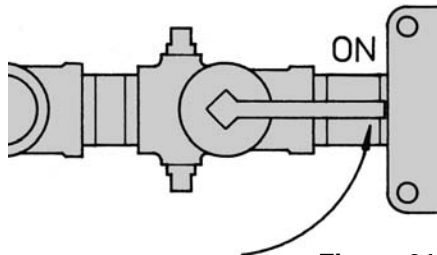

Figure 21
- a) Open the main gas cock knob counter-clockwise 1/4 turn to "ON" (Figure 21). Turn on all electric power to the boiler. Set thermostat to desired position. Turn operating switch on boiler to "ON" position. The boiler is energized and 35 second prepurge begins.